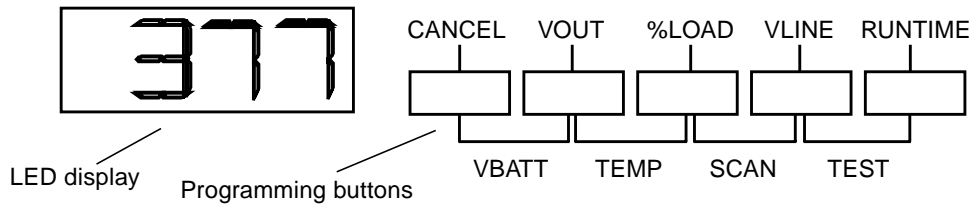

FIGURE 6-12 PCU Front Panel
1. At the PCU front panel, press the VBATT buttons. See FIGURE 6-12. The LED display should read approximately 55 V.